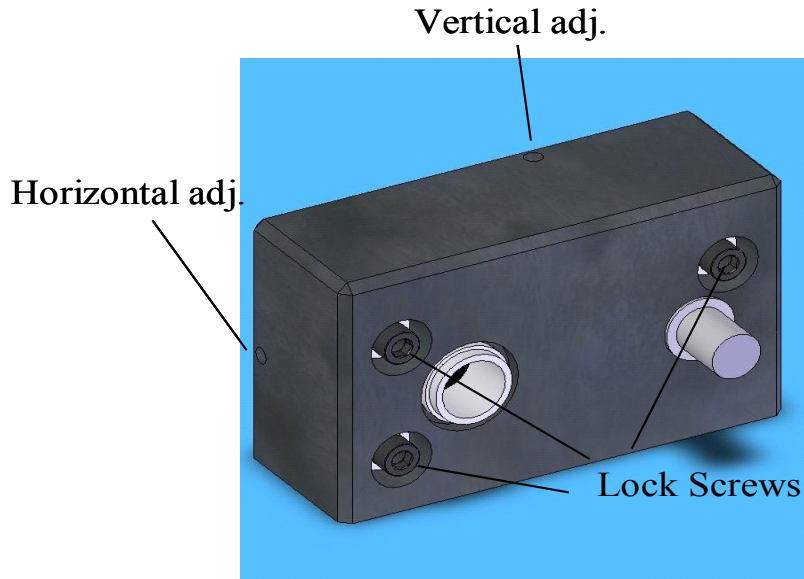

Figure 3: Lock screws and beam pointing controls.
The vertical and horizontal alignment of the laser system is factory set and should not need adjustment. However, if your specific application requires it or the system is misaligned, the DBR subassembly has adjustments to steer the beam for alignment to the spectroscopy module or other modules. The beam pointing is adjusted by loosening the three lock screws ½ turn past the crack point and adjusting the x and y positioning setscrews on the top and left side (facing out along the laser beam) of the module (see Figure 3). For more detailed instructions, see section 1.4.
3. Adjust the horizontal adjustment 4-40 set screw on the left side of the DBR housing (See Figure 3).